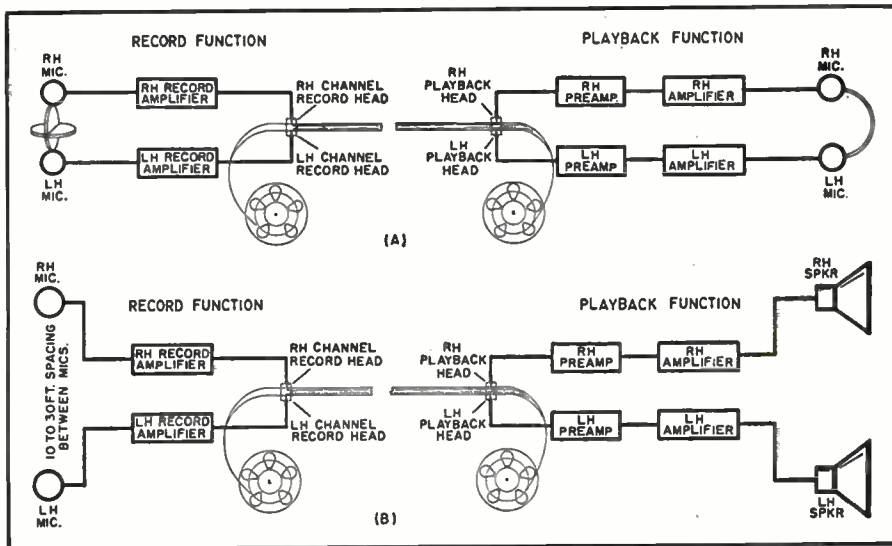

Fig. 1. Binaural (A) and stereophonic (B) systems of recording and playback.
Fig. 1. (A) Complete schematic of the simple transistorized amplifier circuit which can be added to any remote station. (B) Circuit installed in a Bogen R-60 intercom.